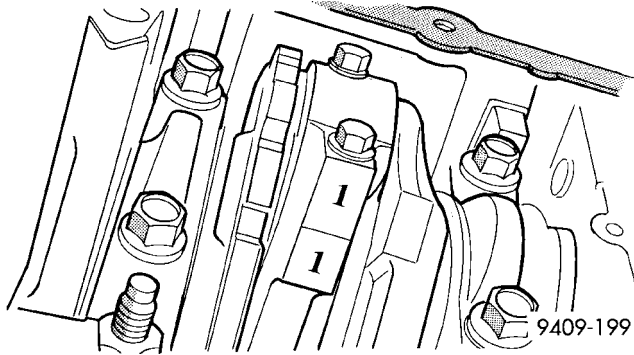

Fig. 79 Identify Connecting Rod to Cylinder
(2) Remove oil pan. Scribe the cylinder number on the side of the rod and cap (Fig. 79) for identification.